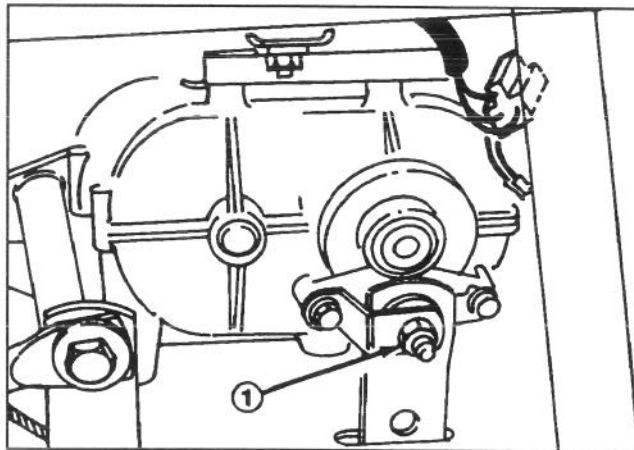

Figure 29
3. Tighten the locknut approximately 1/4 turn clockwise (Fig. 29).